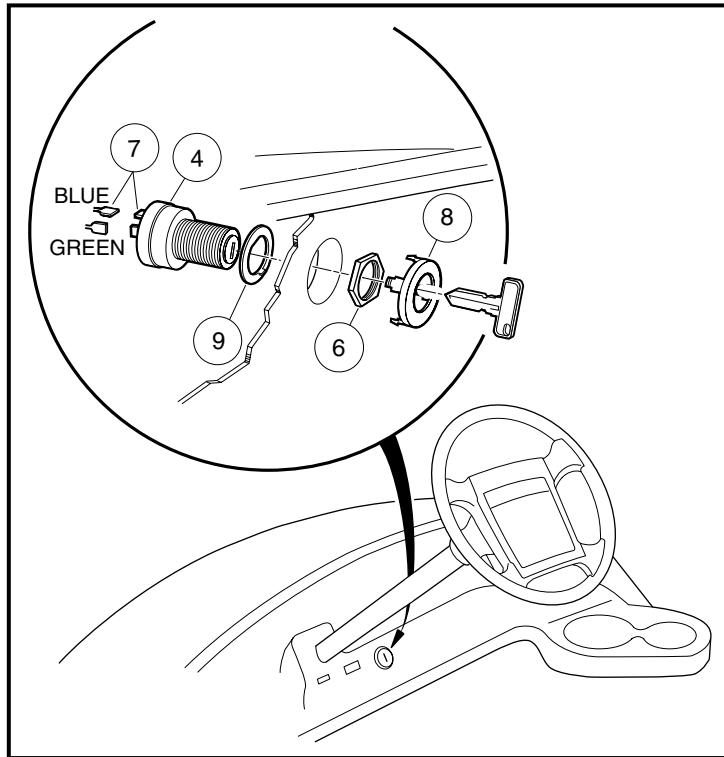

Figure 12-2 Key Switch
4. From the back of the instrument panel, push down on the retaining tabs surrounding the key switch (4) and remove the key switch cap (8). Hold the key switch and remove the switch retaining nut (6) from the outside of the instrument panel. **(Figure 12-2, Page 12-2).**
1. Position the key switch and flat washer (9) in the instrument panel, then install and tighten the switch retaining nut (6) to 40 in-lb (4.5 N-m). Install key switch cap (8) in center dash **(Figure 12-2, Page 12-2).**